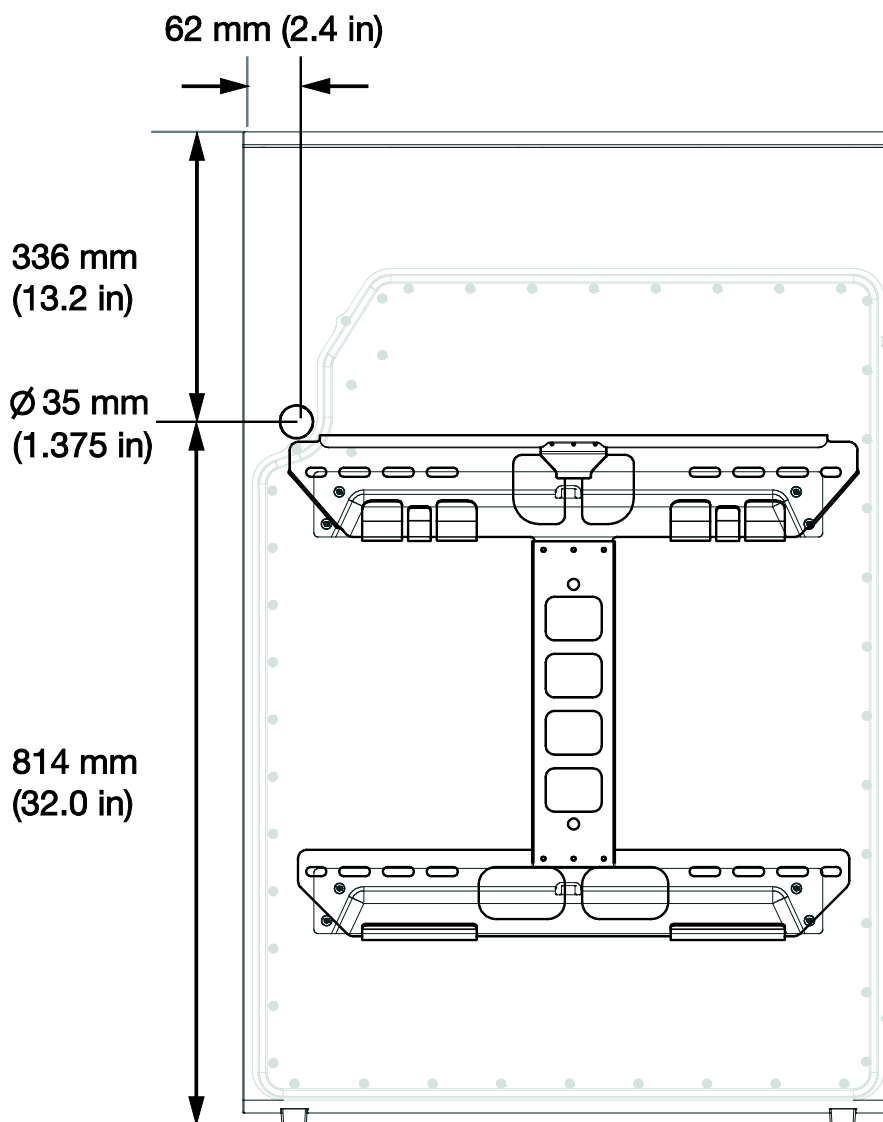
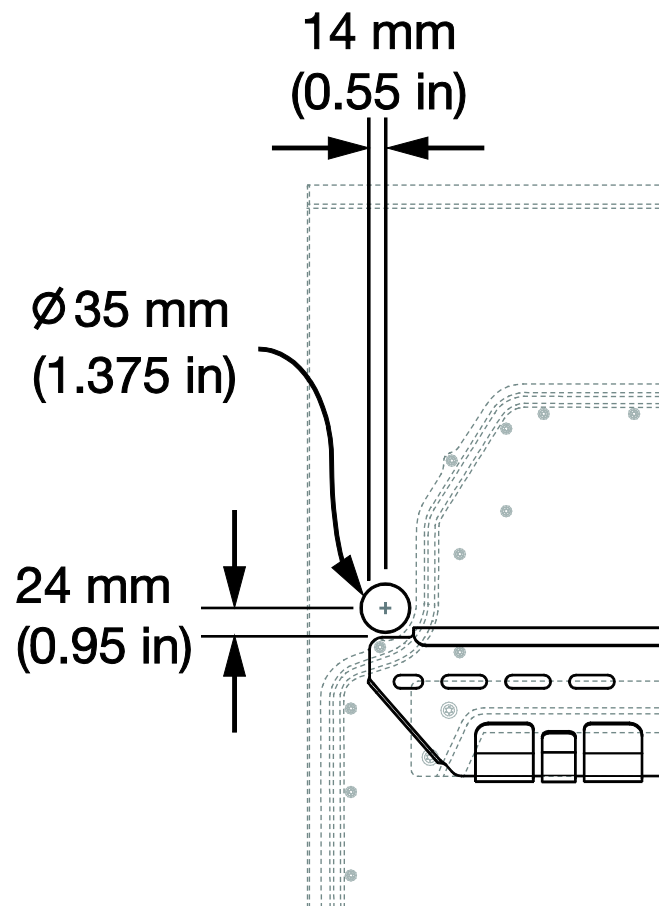

Figure 16: Back Cable Entry Port Location (Viewed from Front of Powerwall)
Figure 17: Back Cable Entry Port Location -DETAIL (Viewed from Front of Powerwall)
7. (Back cable entry installation only) Drill a hole in the wall that corresponds to the location of the back cable entry port on Powerwall. The diameter of the port and location of its center in are shown below in relation to the Powerwall chassis (Fig 16) and in relation to the installed mounting bracket (Fig 17).